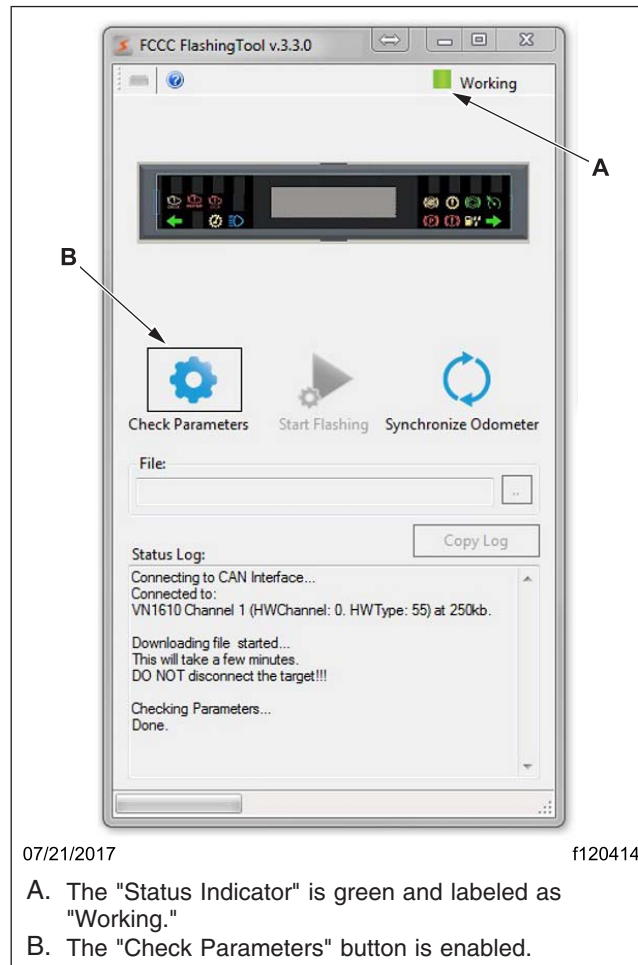

Fig. 4, Selecting the "Check Parameters" Button
7. Select the "Check Parameters" button shown in Fig. 4.